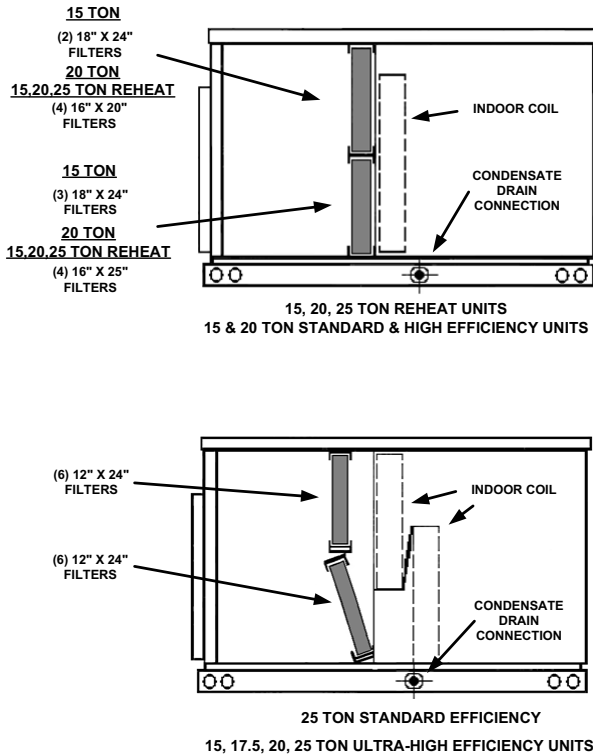

Figure 5 - End view less filter access panel
1. Remove the filter access panel located to the left of the condensate drain connection. See Figure 5.